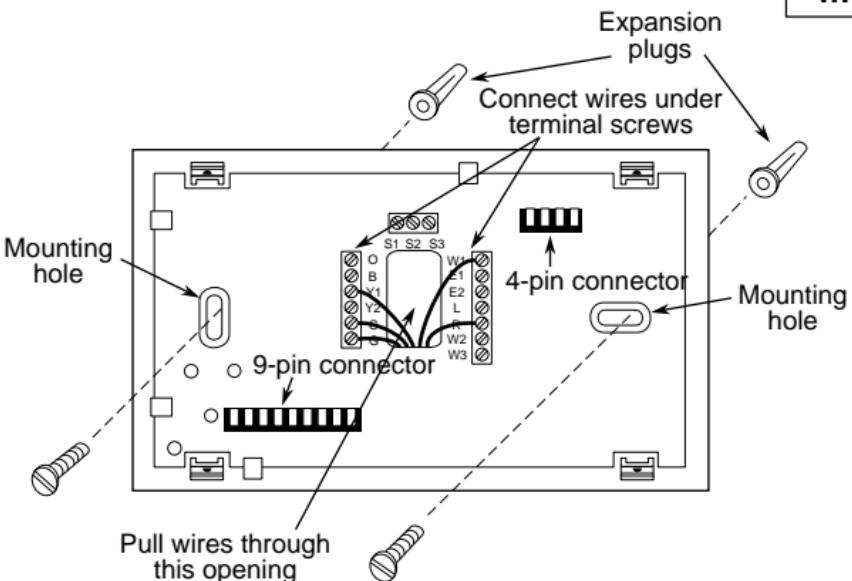

Figure 3. Subbase
2. Connect wires beneath terminal screws on subbase using wiring schematic for your particular application (see figs. 3 through 6).
5. Fasten subbase loosely to wall, as shown in fig. 3, using two mounting screws. Place a level against bottom of subbase, adjust until level, and